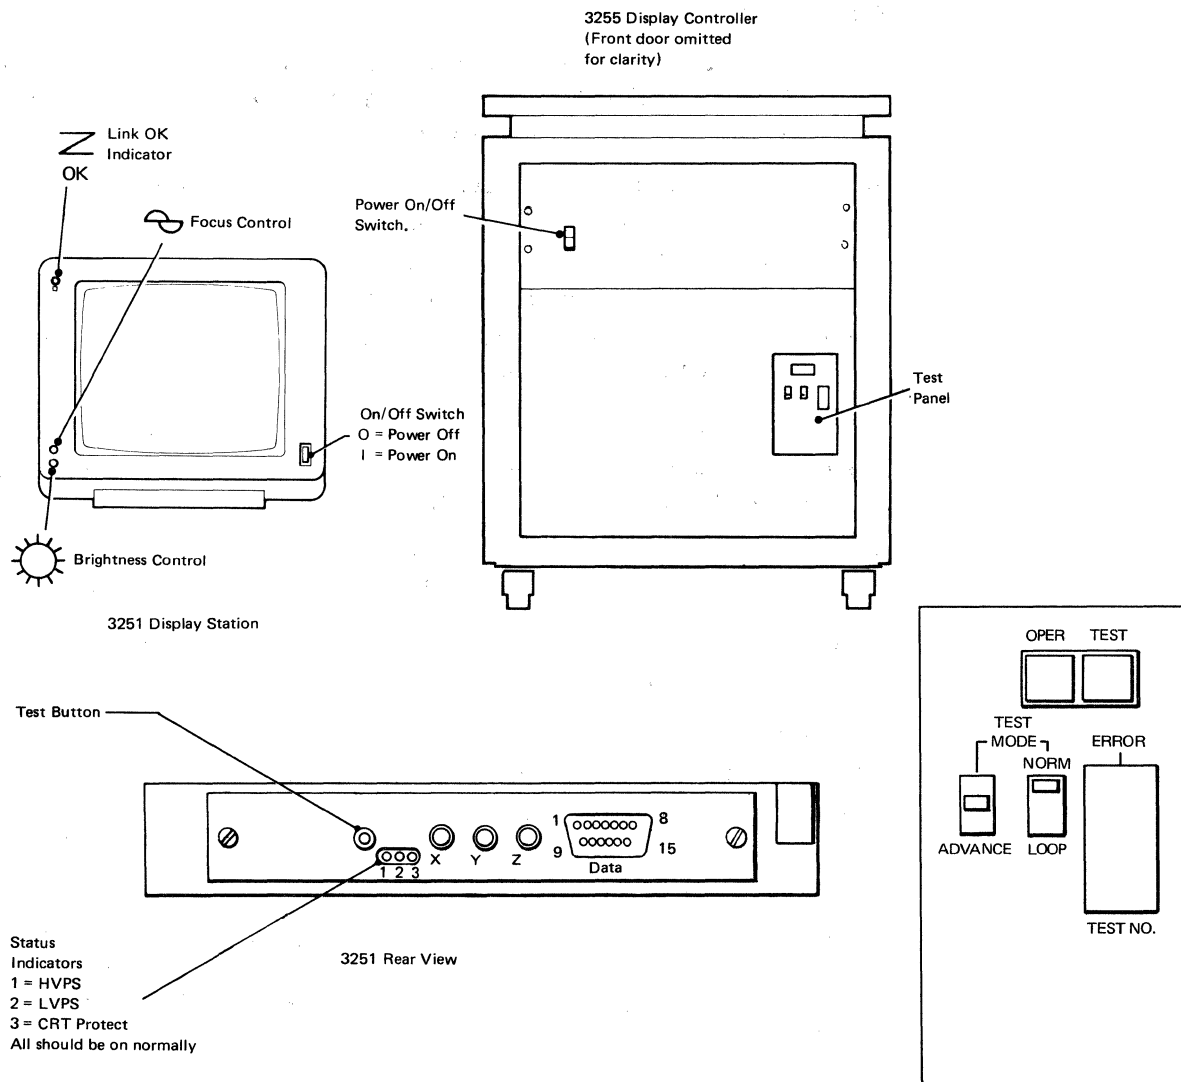

Figure 1-1. 3251 and 3255 Switches
- **IBM 3251 Display Station Model 1.** Switch power on by pressing | on the power on/off switch (see Figure 1-1).
- **IBM 3255 Display Control Unit Models 1 and 2.** Switch power on by pressing | on the power on/off switch (see Figure 1-1). Open the front door of the 3255 and observe the OPER indicator on the test panel. Switching power on starts the 3255 self-checks. If the tests end without detecting an error, the OPER indicator goes on.
Is the Link OK indicator (see Figure 1-1) on?
Open the front door of the 3255 and press the OPER button on the test panel (see Figure 1-1). Wait for approximately 30 seconds.